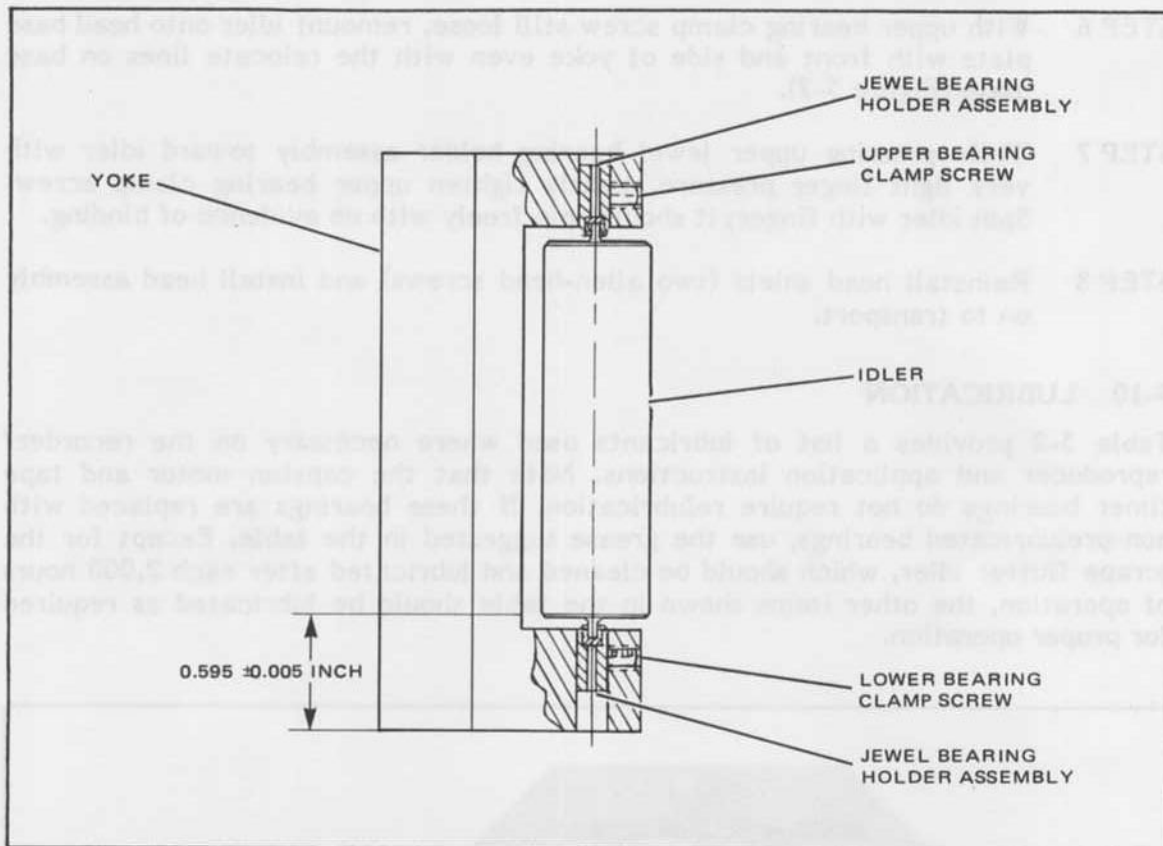

Figure 5-3. Scrape Flutter Idler, Side Cross-Section View
- STEP 4 Loosen the two allen-head bearing clamp screws (Figure 5-3) in yoke assembly. Slide two jewel-bearing holder assemblies out of yoke and remove idler.
- STEP 5 With upper and lower bearing clamp screws loose, set idler height (Figure 5-3) to 0.595 ± 0.005 in. above yoke base. Lightly tighten lower bearing clamp screw.